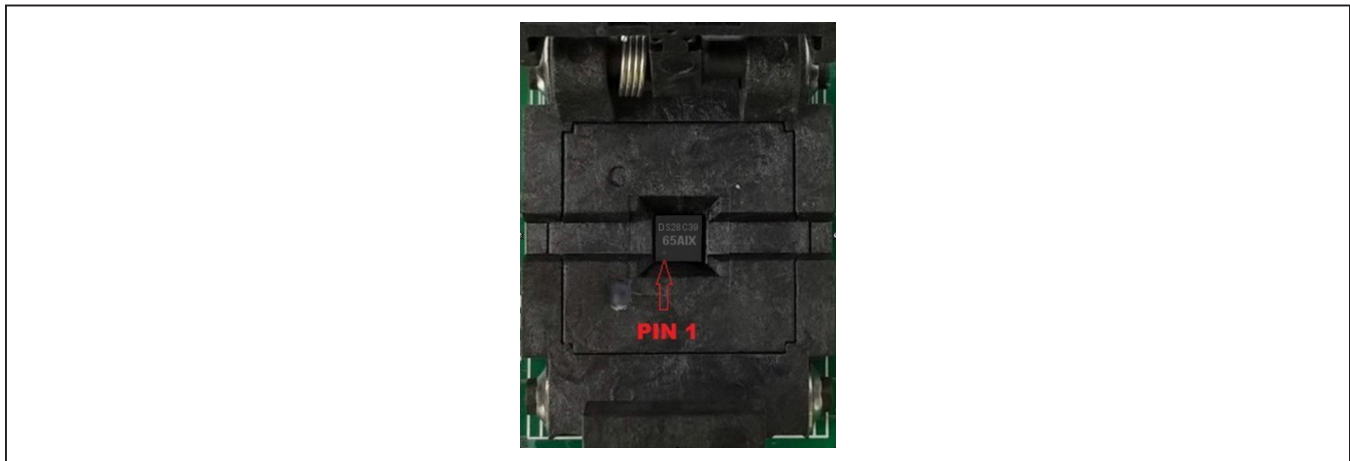

Figure 8. Orientation of the DS28C39 and DS2476 in the Burn-In Socket
- a) (Optional—Perform only if using the coprocessor): Open the DS9121AQ+ socket and insert a DS2476 into the cavity, as shown in Figure 8. **Note:** The plus (+) on the package must be on the opposite side of the marker in the socket.
- b) Open the DS9121BQ+ socket and insert a DS28C39 into the cavity, per the same orientation shown in Figure 8.